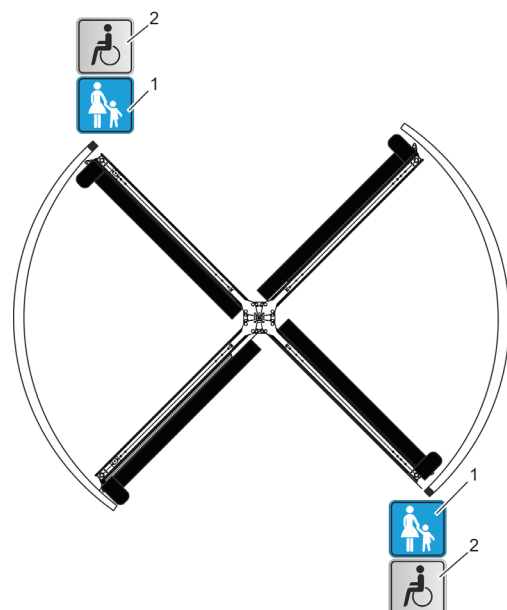

Fig. 21 Overview of labels/instruction plates
- Hold children by the hand (Fig. 21/1)
- disabled access pushbutton* (Fig. 21/2)